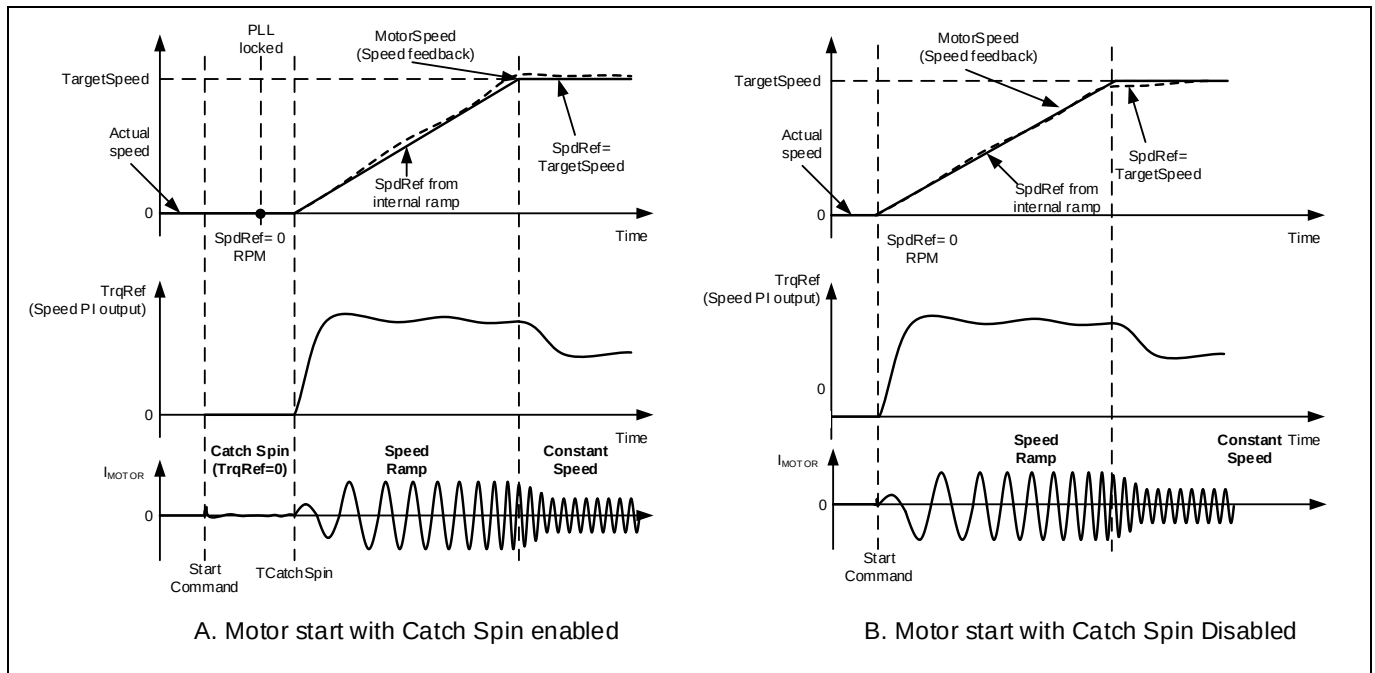

Figure 14 Zero Speed Catch Spin - Motor start with/without catch spin
If the motor is stationary, then the catch spin sequence is termed as 'Zero Speed Catch Spin'. Figure 14(A) shows an example for 'Zero Speed Catch Spin'. In this example, at the start command, the motor is stationary. After the start command, 'Zero Speed Catch Spin' sequence begins. During the catch spin sequence, no motoring current is injected. After the catch spin time has elapsed, the motor speed at that instance (which is 0 RPM) becomes initial speed reference and starting point for speed ramp reference. The motor continues to accelerate, following the speed ramp reference to reach the set target speed.
If catch spin is disabled, normal speed control starts immediately after the start command, without waiting for PLL to be locked. As shown in Figure 14 (B), after the start command, motoring current is injected directly as there is no catch spin sequence. The motor starts accelerating, following the speed ramp reference to reach the set target speed.